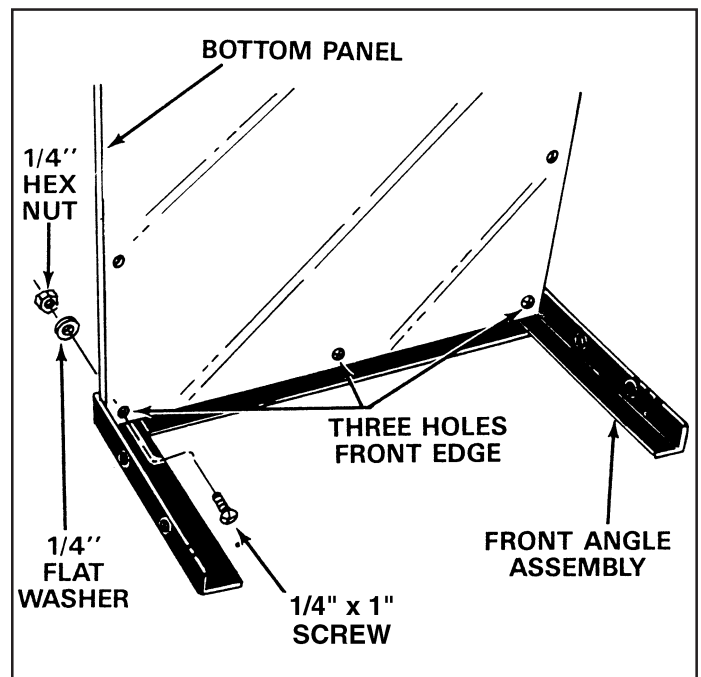

FIGURE 2
1. Lay the front angle assembly down (flat) on floor and stand the bottom panel in position as shown in figure 2.
The bottom panel has one galvanized edge; this is the rear. The front edge has three holes. See figure 2.
2. Line up three holes in bottom panel with holes in front angle assembly. Start three 1/4" x 1" screws through bottom panel, then through angle. Secure screws with flat washers and hex nuts. Tighten securely. See figure 2.